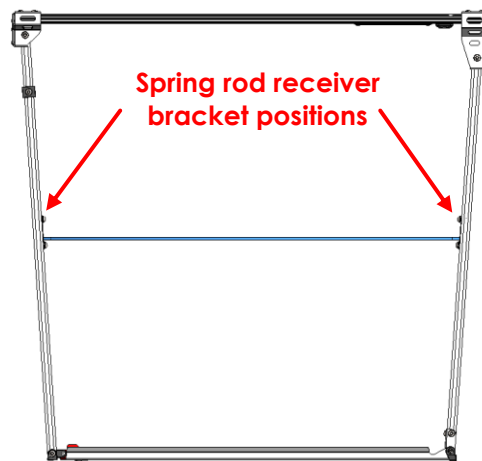

FIG. 5.2.2
- ✓ Identify the spring rod receiver brackets installed onto both left-and-right-hand arms. **Fig. 5.2.2**